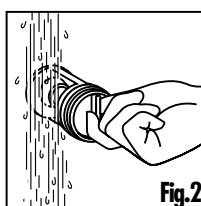

Fig.2c
3. Flush the filter clean with running water (Fig. 2c).